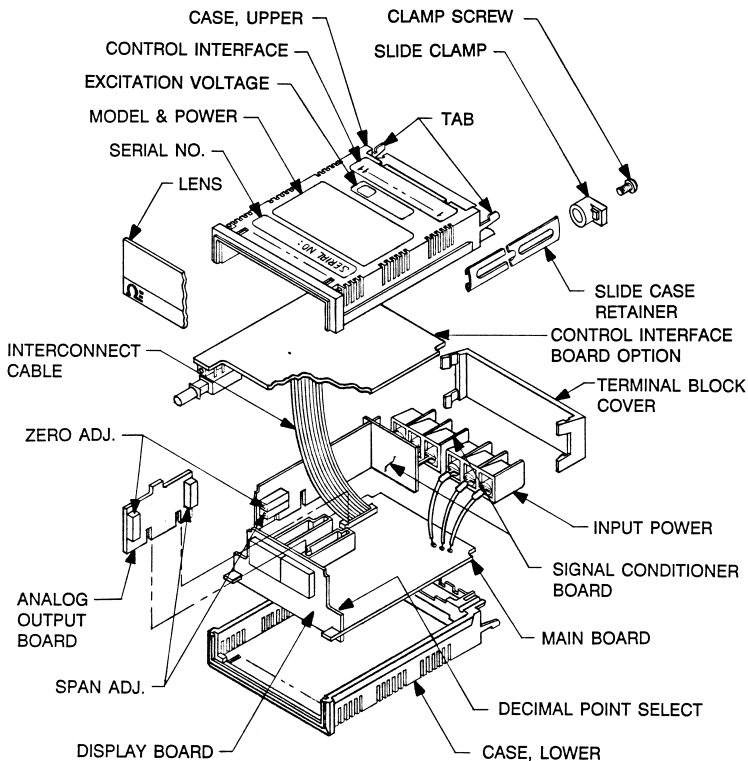

FIGURE 1 OMEGAROMETER EXPLODED VIEW
2.1 PANEL MOUNTING PROCEDURE (SEE FIGURE 1)